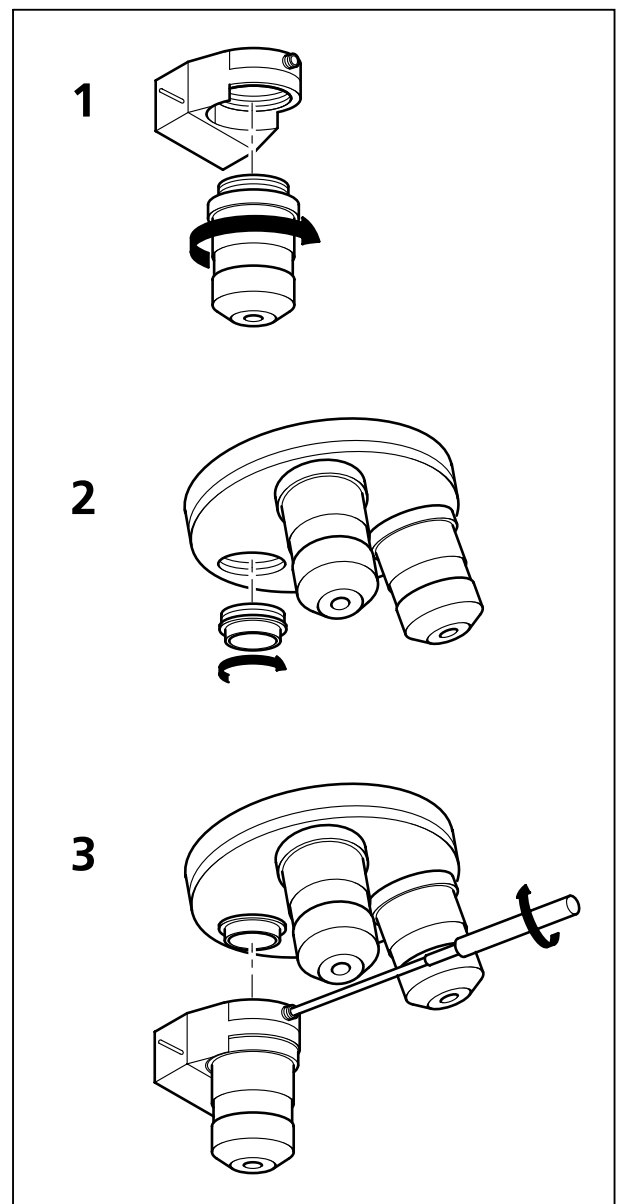

Fig. 7-9 Installation of the Piezo Objective Focusing Device
- Screw in your microscope objective into Piezo Objective Focusing Device (see Fig. 7-9/1).
- Screw the thread-ring into your microscope (see Fig. 7-9/2).
- Easy clamp the Piezo Objective Focusing Device on the thread-ring (see Fig. 7-9/3).